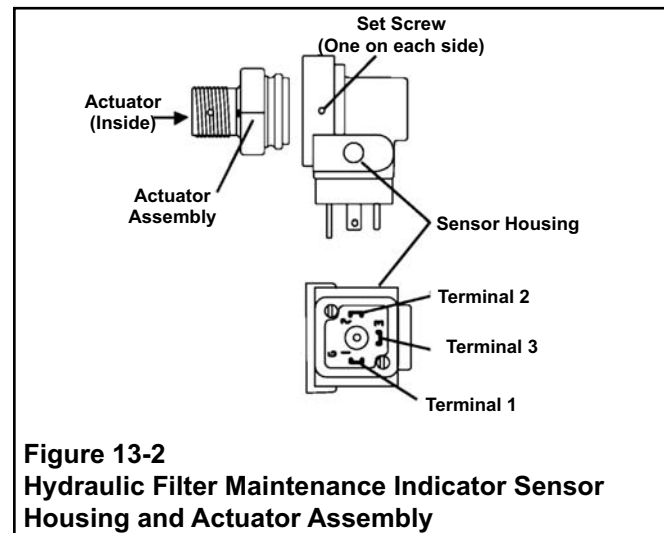

Figure 13-2
10. **Bi-Annually:** Check operation of Hydraulic Filter Maintenance Indicator actuator assembly and light using the following procedures and Figure 13-2: